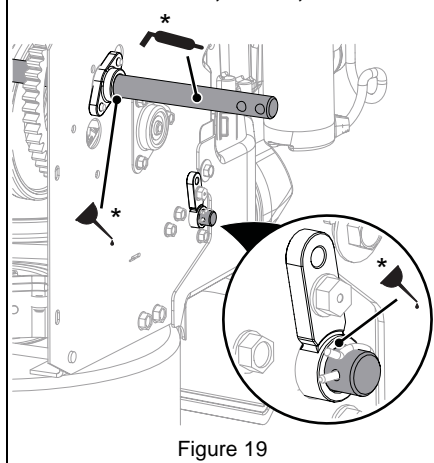

Figure 19
1. Lubricate as shown in Figures 19, 20, 21 and 22.